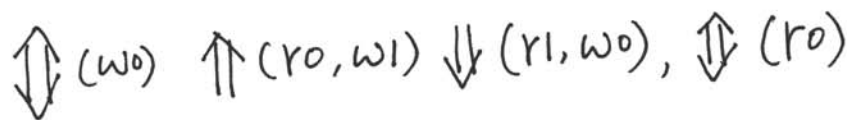

Figure 2.
3. There is a coupling fault called CF_{xyz} occurring between cells in different words. Assume you have a memory array with 100 words and each word contains 1 bit only. By CF_{xyz}, a read operation on the aggressor cell forces the content of the victim cell to a specific logic value. A CF_{xyz} can be represented as <rx:y> where reading logic value x at the aggressor cell forces the victim cell to logic value y. There are four CF_{xyz} faults: <r0;0>, <r0;1>, <r1;0>, <r1;1>. You are given March X as shown in Fig. 2. Which CF_{xyz} faults can be detected by March X? Which CF_{xyz} faults cannot be detected by March X? (13%)